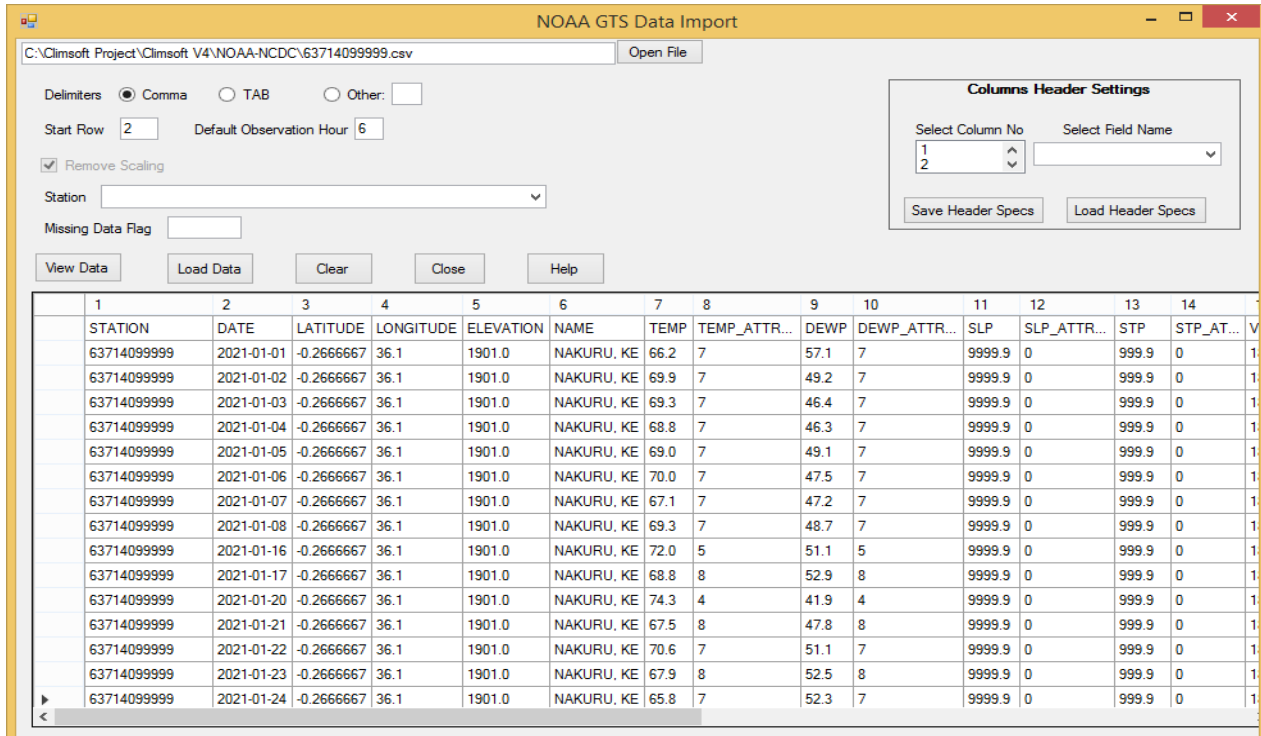

Figure 66: Importing data from a text file downloaded from NOAA-NCEI site
- (iii) 3. Select “NOAA GTS” to open the dialog and browse the data file as shown in Figure 66 below.